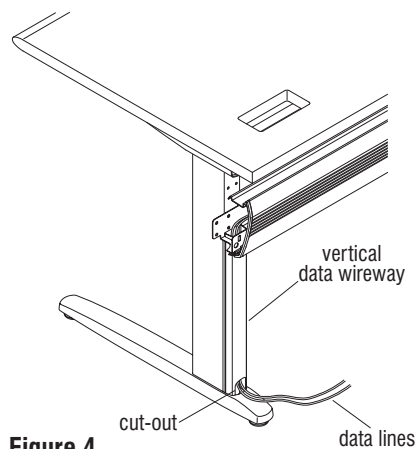

Figure 4
4. With the cover removed, route the appropriate data wires down the rear of the leg and onto the foot. The vertical data wireway can then be replaced with the cut-out facing down (Figure 4).